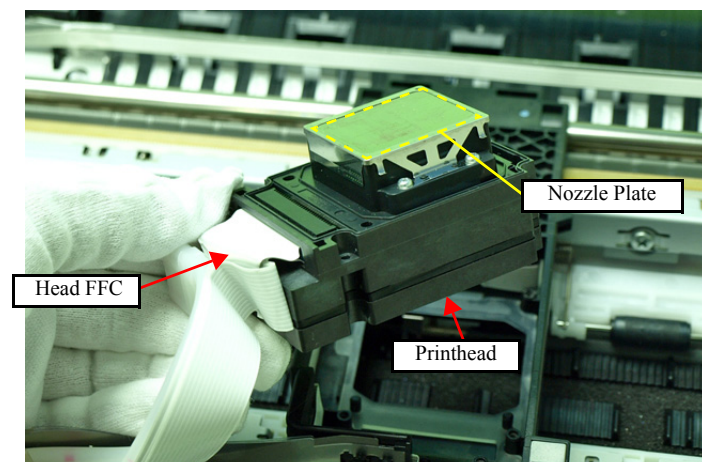

Figure 4-56. Removing the Printhead (2)
- When handling the Printhead, make sure not to touch or damage the nozzle plate surface of the head. (See Fig. 4-56.)